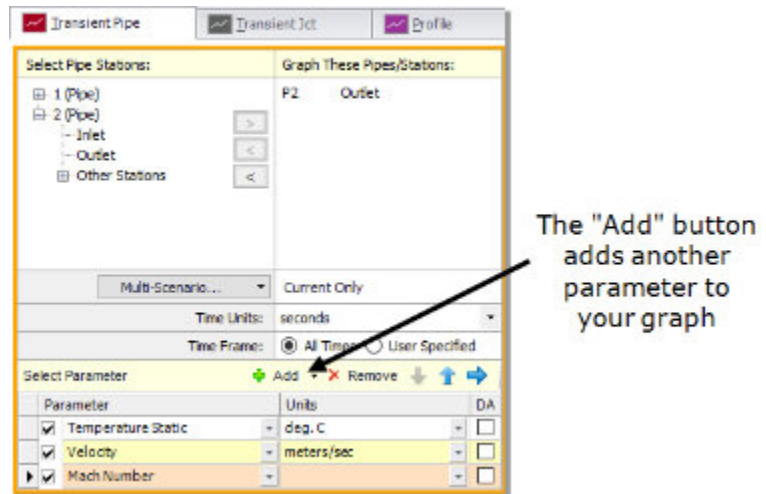

Figure 2.28 The Graph Control tab on the Quick Access Panel allows you to specify the graph parameters you want to graph in the Parameters/Formatting area
- ▶ **Click the Add button twice**, which is the green “+” icon next to Select Parameter. Two new rows will appear under the Parameter definition area which will create stacked graphs (Figure 2.28).
Figure 2.28 shows the input in the Parameters/Formatting area on the Quick Access Panel.